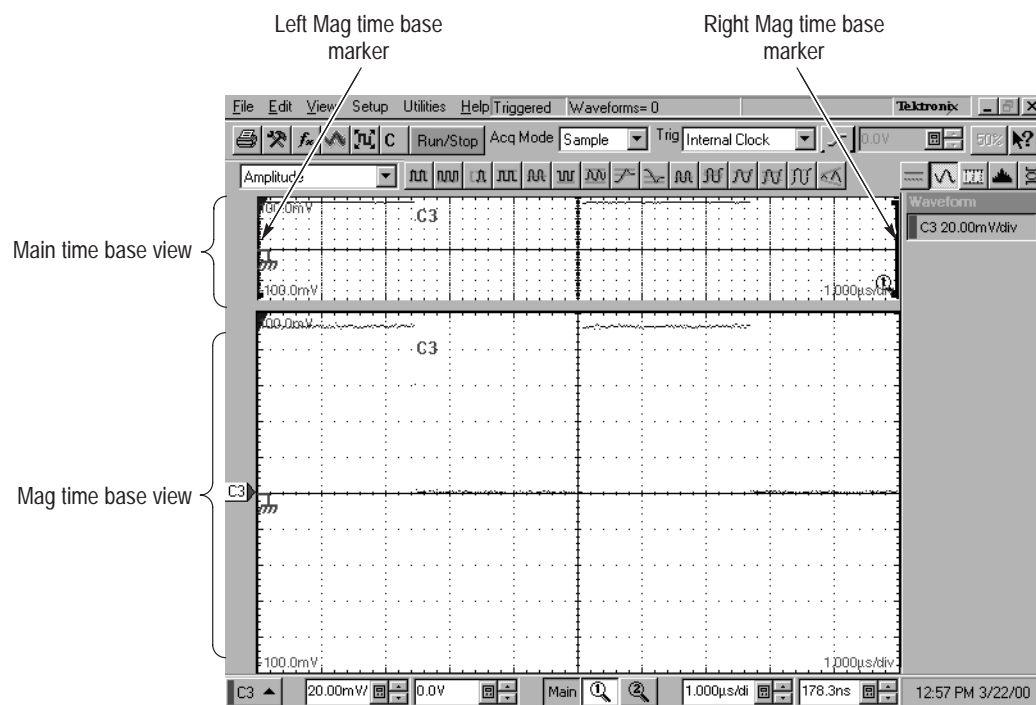

Figure 1–14: Mag time base verification
- The brackets on the Main View waveform (*top graticule*) are a full-screen width apart (10 divisions). See Figure 1–14 on page the 1–31.
- One period of the internal clock signal (a square wave) in the Mag view (*bottom graticule*) is about five horizontal divisions on-screen. (Matches the waveform in the top graticule.) See Figure 1–14.